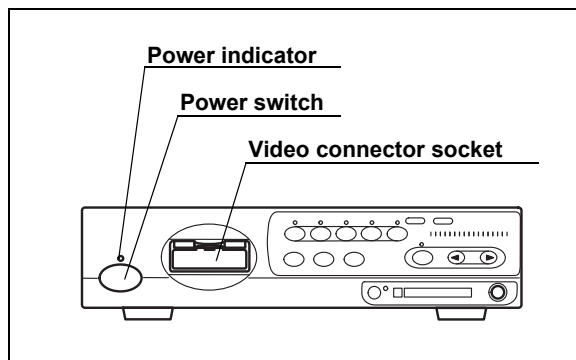

Figure 3.1
2. Press the power switch of the instrument (see Figure 3.1). The indicator lamp above the power switch lights up.
Press the power switch of the instrument (see Figure 3.1) to turn the instrument OFF. The indicator above the switch goes off.